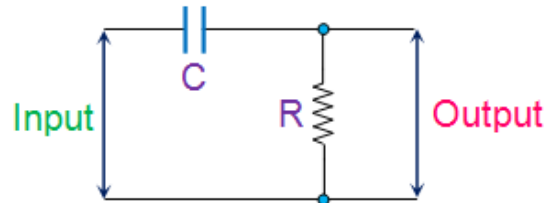

Figure 1 RC Phase-Shift Network
RC phase-shift oscillators use resistor-capacitor (RC) network (Figure 1) to provide the phase-shift required by the feedback signal. They have excellent frequency stability and can yield a pure sine wave for a wide range of loads.